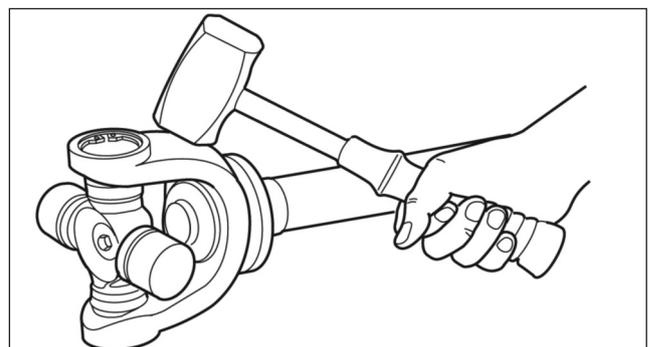

Fig. 4.19
**NOTE:** If the universal joint does not move freely: Strike the yoke ear with a brass or copper hammer. Fig. 4.19